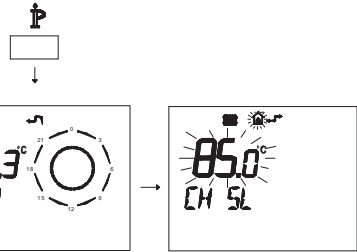

Fig. 7.21
- Press button \mathbb{P} for more than 3 seconds to enter in *INFO* (Fig. 7.21) mode.